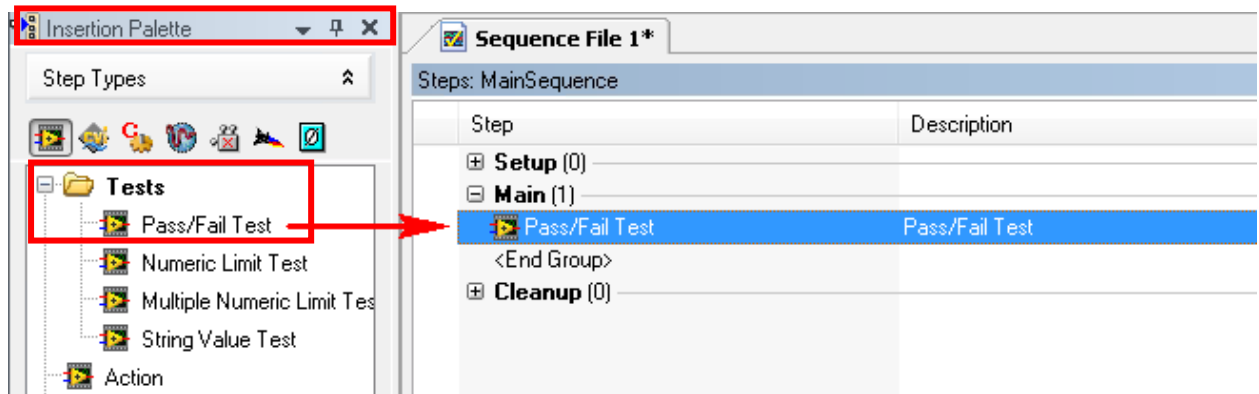

Figure 1-7. Creating the Filter Test Step
- Expand the **Tests** group in the **Insertion Palette** and drag the **Pass/Fail** test to the **MainSequence** as shown in Figure 1-7.